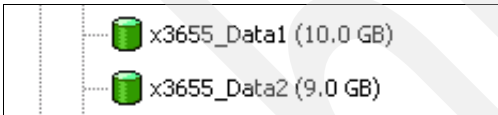

Figure 9-54 Logical Drive size
Within the Storage Manager (SM) client, in the left pane of the *Subsystem Management* window under the *Logical* tab, we can see the two Logical Drives that we take into consideration (Figure 9-54). In this phase we are interested to pick up the Storage Server configuration in terms of Logical drive Capacity, array RAID protection, number of disks per array and Hard Disk Drive (HDD) type/speed. We can find all this information in the Storage Manager client or in the storage profile text file.